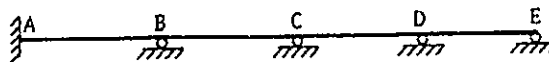

Figure 4
- b. For the continuous beam of Figure 4, draw qualitative shape of influence lines for  $M_A$ ,  $R_A$ ,  $R_C$  and  $V_{CR}$ .